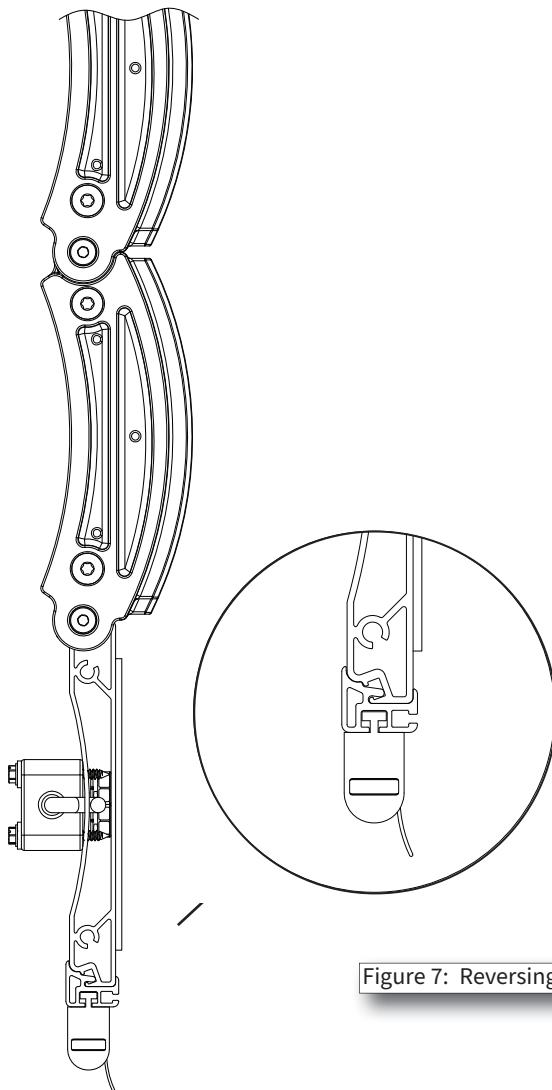

Figure 7: Reversing Edge Detail
- 3 The Reversing Edge Sensor has a "T" shaped profile at the top that slides into a slot in the extrusion above it in the bottom bar (Figure 7). Pull the reversing edge sensor out of the slot in the extrusion horizontally.